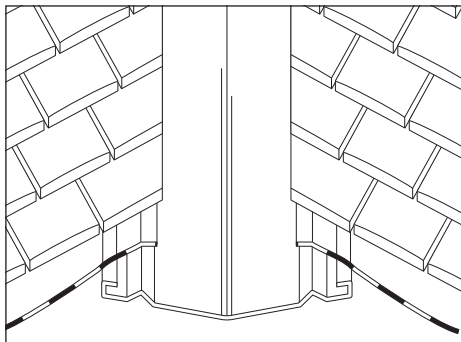

Fig. 13 – Metal valley construction for plain tiles
- 2 Nail all tiles and cut pieces adjacent to valley (Fig. 13).